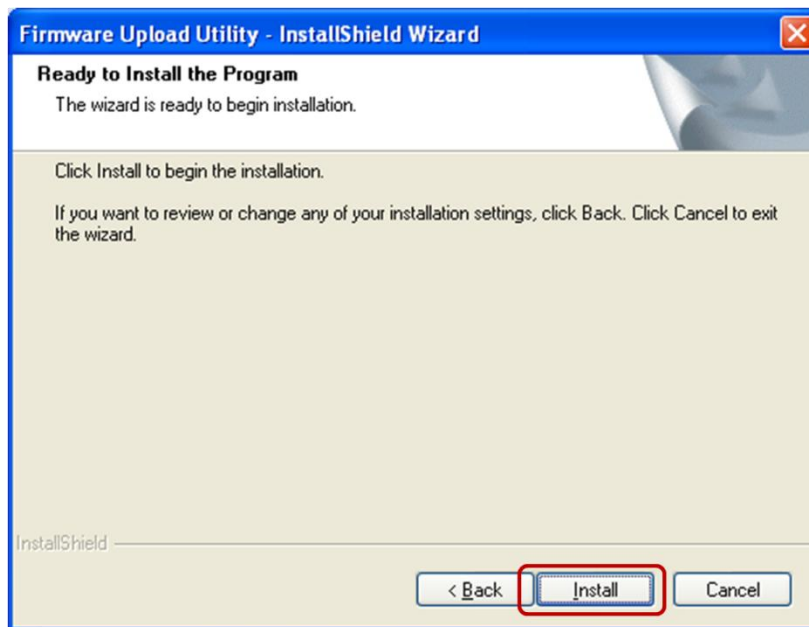

Figure 4
5. Select the **Install** button to continue the installation (Figure 4).